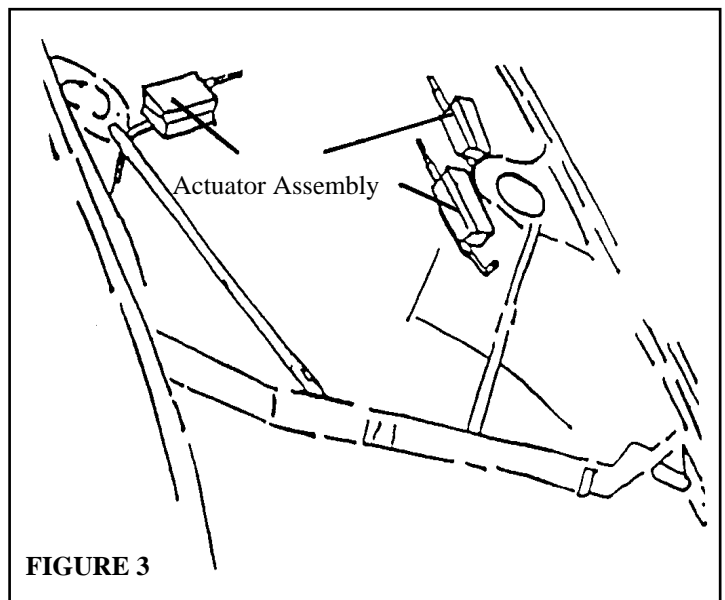

FIGURE 3
4. Once you have confirmed that the **Harness Assembly** and the **Cable Assembly** will reach their respective locations, mount the **Actuator Assembly** in the spot you have selected with **Screws** provided in the kit. (**Figure 3**)